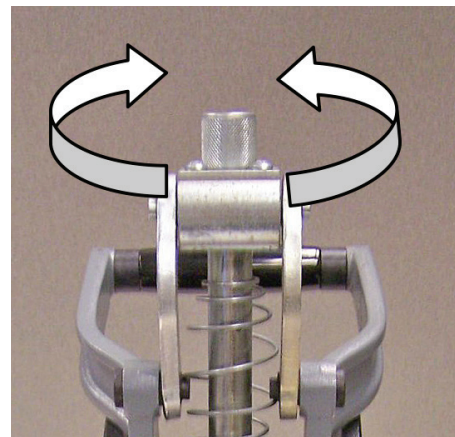

Figure 3 — 3M™ Press 3640
- 3.4 Rotate the shut height to lower or raise adjustment feature until the bottom of the shaft contacts the desired position on the shut height gauge. (Figure 3 and 4)